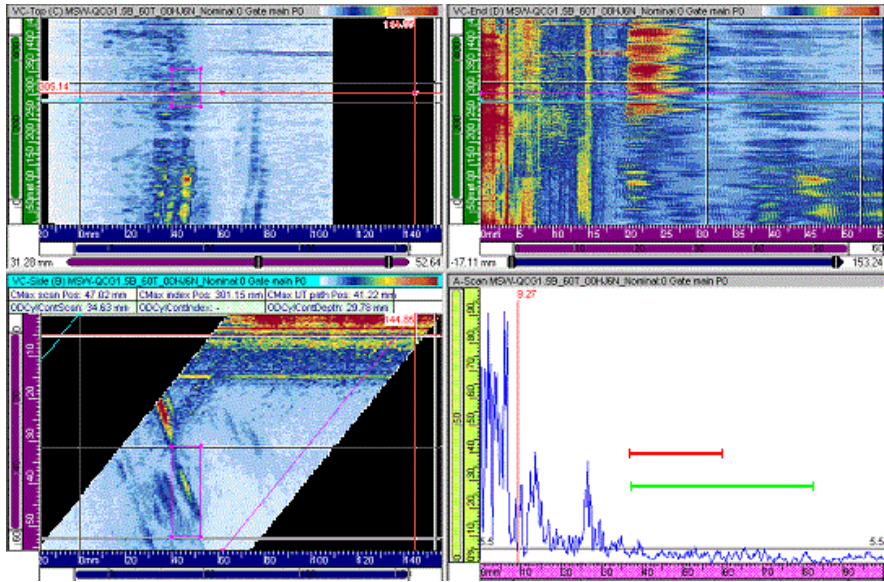

Figure 7-68 Cylindrical correction: example 2
4. In the VC-Side (B) view, create a zone containing the considered flaw indication.
5. In the VC-Top (C) view, create a zone containing the considered flaw indication.
- You have now, in fact, created a volumetric zone defined by the zone created in the top view and the gate selectors on the ultrasonic axis (see Figure 7-68 on page 409). Additionally, the selected parameters in the information group give the position of the maximum amplitude in the zone along the scan and depth axes.